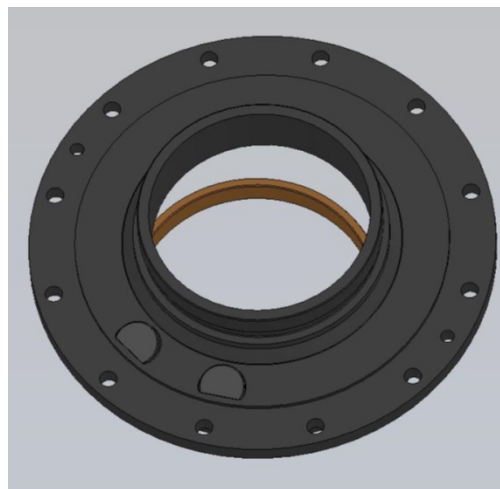

Figure 45. Clearance Ring Driven Out – Suction Head
- D. Using a chisel and hammer, drive clearance ring out of suction head. See Figure 45.